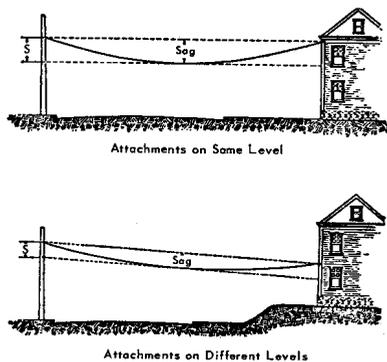

Figure 1. Sighting Drop Wire Sag
- 3.02 To determine the sag in the drop wire, sight between the attachments at both ends of the drop wire and determine the distance between the drop wire at its lowest point and the straight line between attachments. See Figure 1.